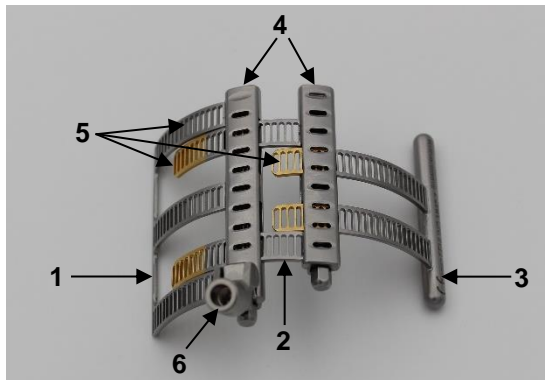

Fig. 1a: Treede Maxposition Blade
The size-adjustable Treede Maxposition Blade (Fig. 1a) consists of three elements of different sizes: base element (1), primary element (2) and secondary element (3) (Fig. 1b). One element consists of a box module (4) and fan blades (5) (Fig. 1a).